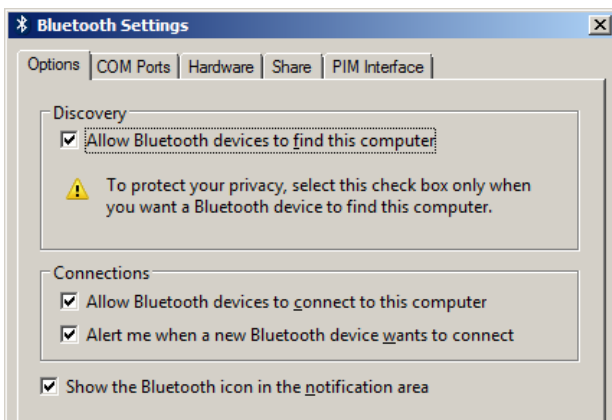

Figure 46: Bluetooth Settings
5. Set the computer built-in Bluetooth as Discoverable in *Bluetooth Settings* (Figure 46).